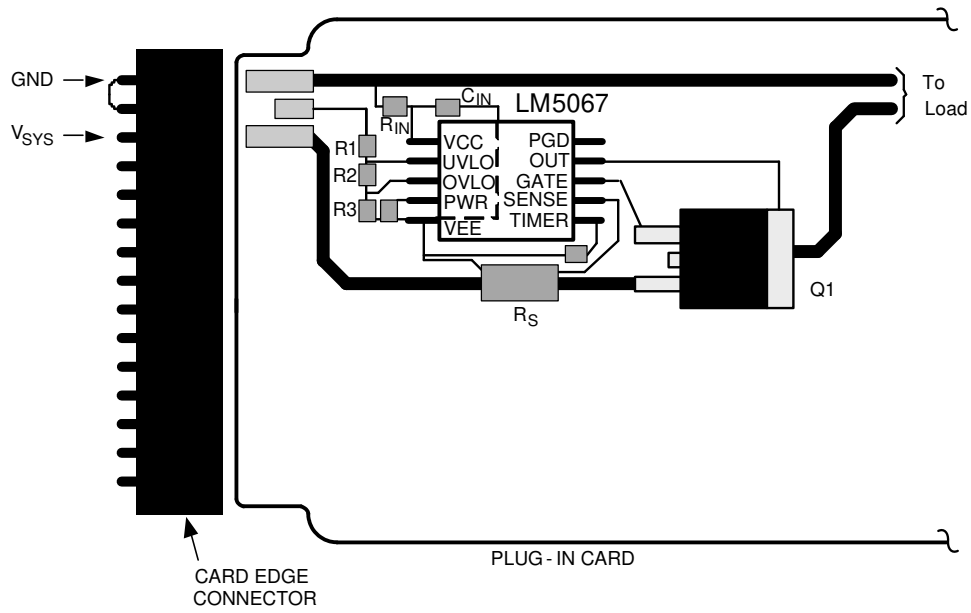

图 11-1. Suggested Board Connector Design
- The board's edge connector can be designed to shut off the LM5067 as the board is removed, before the supply voltage is disconnected from the LM5067. In Figure 11-1 the voltage at the UVLO/EN pin goes to VEE before  $V_{SYS}$  is removed from the LM5067 due to the shorter edge connector pin. When the board is inserted into the edge connector, the system voltage is applied to the LM5067's VEE and VCC pins before voltage is applied to the UVLO/EN pin.